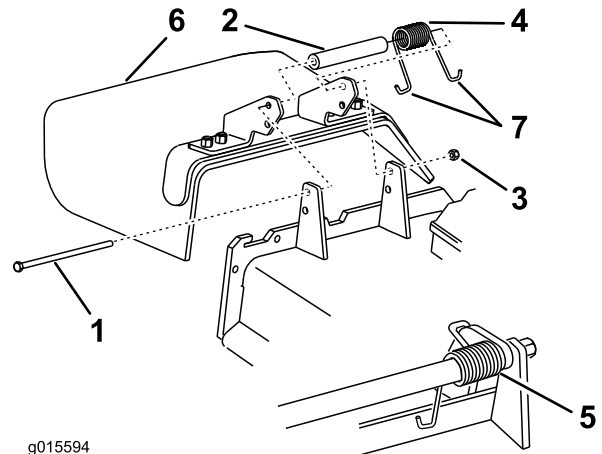

Figure 100
1. Remove the locknut, bolt, spring, and spacer holding the deflector to the pivot brackets (Figure 100).
Note: Make sure 1 J end of spring is installed behind deck edge before installing the bolt as shown in Figure 100.
6. Place 1 J-hook end of the spring around the grass deflector (Figure 100).